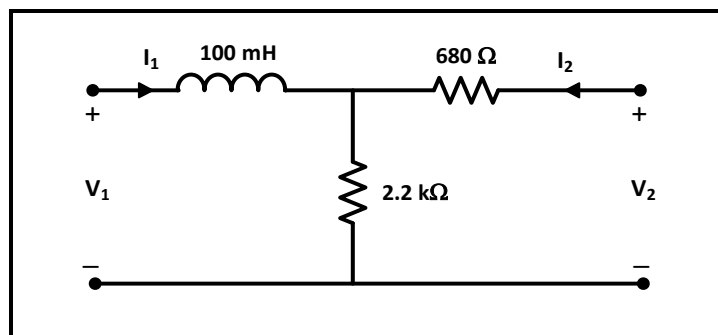

Figure 11.6
2. Simulate the circuits in Figures 11.6 to Figure 11.8 and use current and voltage values resulting from simulation to calculate the A-parameters for each circuit, note that you must apply the same steps in the procedure. (The amplitude of the sinusoidal voltage source used in simulating circuits in this step must be $(4\sqrt{2})$ and its frequency is 1 kHz).
1. Connect the circuit of Figure 11.6.
Question 4: Using data in Table 11.4 calculate A-parameters for the circuit of figure 11.6.
3. Connect the two circuits in figures 11.6 and 11.7 as cascade interconnected two port networks as shown in figure 11.8.
Question 6: Using data in Table 11.6 calculate A-parameters for the circuit of figure 11.8, verify that A-parameters of circuit in figure 11.8 is equal to the **matrix multiplication** of A-parameters of the circuits in figures 11.6 and 11.7.
$$\begin{bmatrix} a_{11} & a_{12} \\ a_{21} & a_{22} \end{bmatrix}_{\text{Figure 11.8}} = \begin{bmatrix} a_{11} & a_{12} \\ a_{21} & a_{22} \end{bmatrix}_{\text{Figure 11.6}} \times \begin{bmatrix} a_{11} & a_{12} \\ a_{21} & a_{22} \end{bmatrix}_{\text{Figure 11.7}}$$